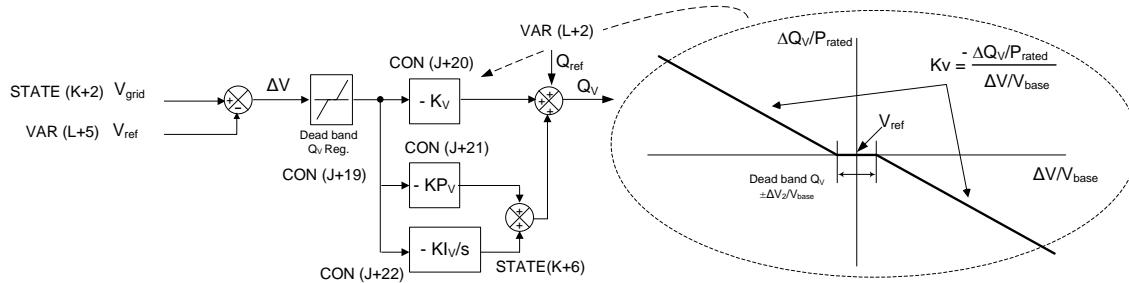

Figure 14. Block diagram of the control of reactive power by the voltage level
Finally, the reactive power output can be controlled by determining the reactive power ( $Q_v$ ) to be supplied according to the deviation of the voltage at the control bus from a reference value (Figure 14). The control strategy is based on proportional plus integral (PI) control actions with parallel reactive droop compensation.